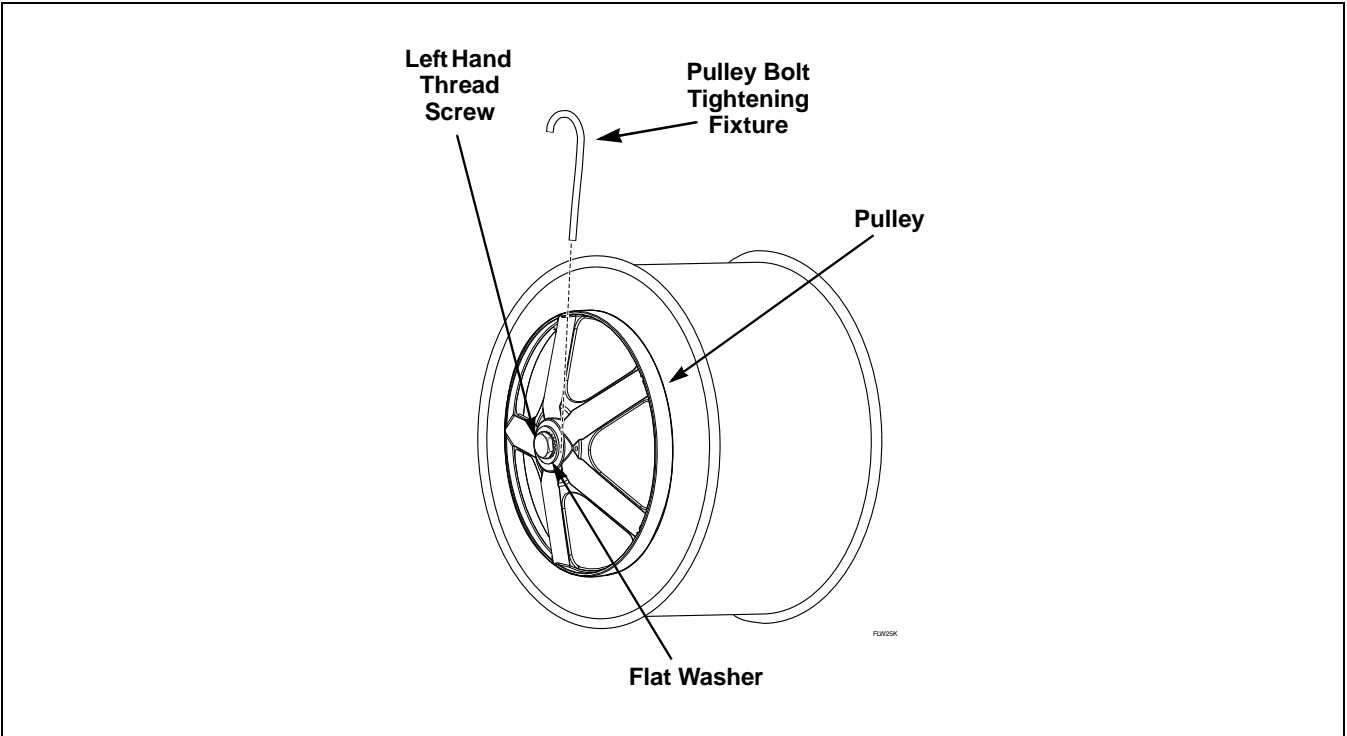

Figure 51
- Install pulley bolt tightening fixture between the flat washer and the pulley. Refer to *Figure 51*.
- f. Install pulley bolt tightening fixture between the flat washer and the pulley. Refer to *Figure 51*.